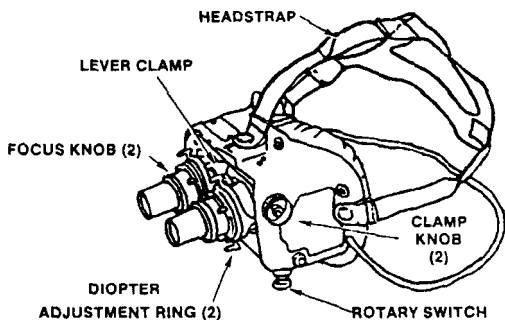

Figure 3-1. AN/PVS-5 and -5A Controls and Indicators.
a. Controls and Indicators. The NVG is designed to adjust for differences in head shape and corrects for most differences in eyesight. Figure 3-1, 3-2, and 3-3 and Table 3-1 describe the controls and indicators.